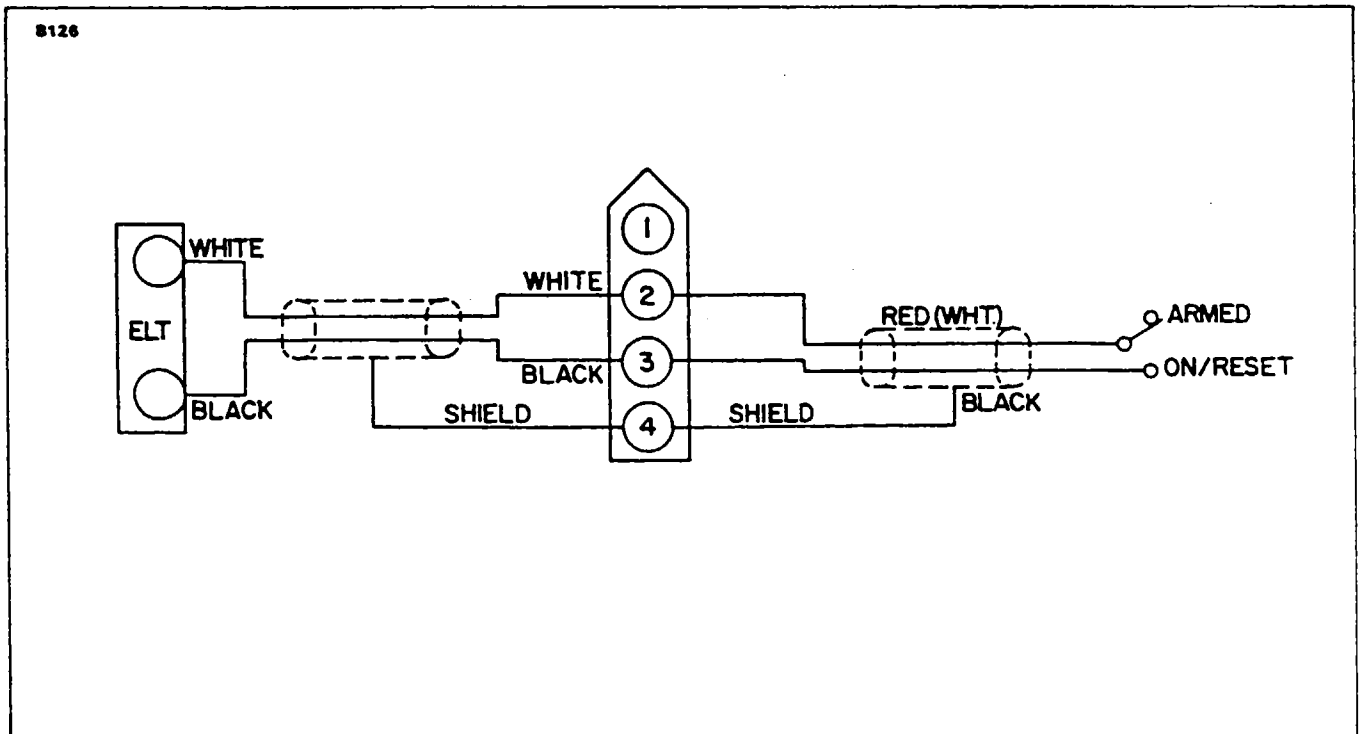

Figure 12-4. Emergency Locator Transmitter Schematic (Narco)
- l. Connect the antenna coaxial cable to the ELT and ensure that the contact separator is inserted between the antenna contact finger and the portable antenna. (Refer to Figure 12-4.)